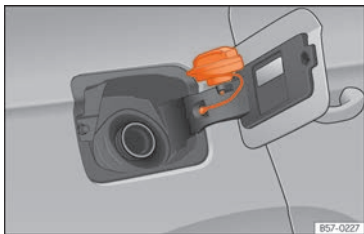

Fig. 205 Fuel tank flap with tank cap attached.
- Place it in the space on the hinge of the open flap » » Fig. 205.